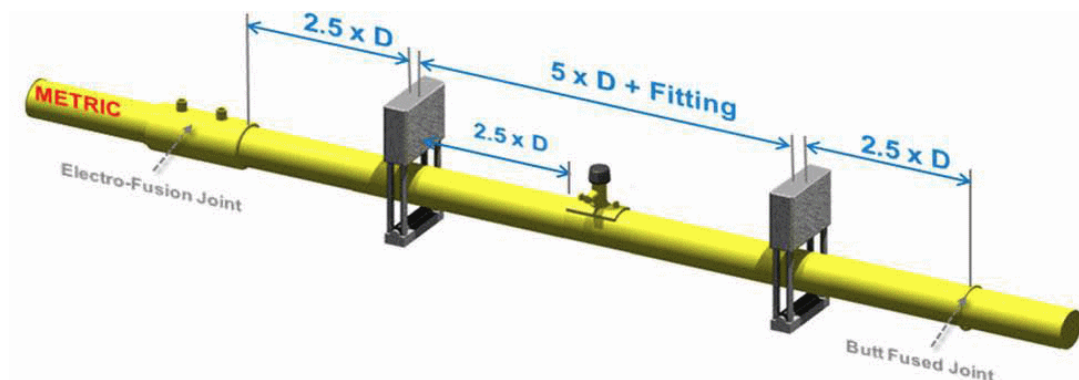

Figure 38- Minimum Squeeze-off Distances Metric Sized Pipes
- The minimum distances shown in Figure 38 apply from the closest edge of the squeeze-off compression bar.